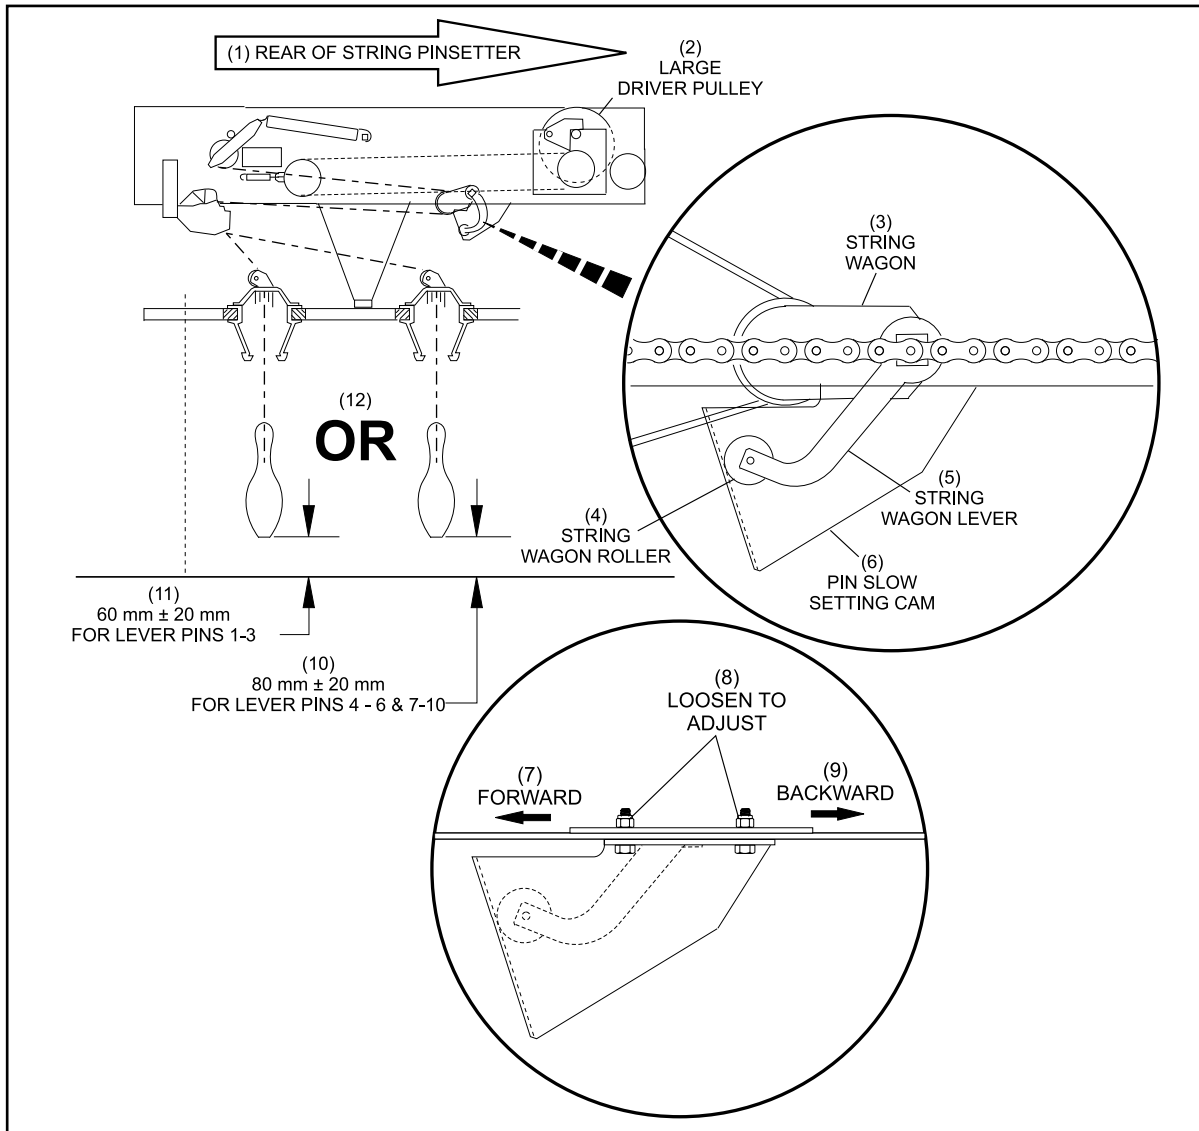

Figure 4-11. Slow Setting Adjustment
3. Manually rotate the large drive pulley in reverse until the string wagon lever roller starts to touch the inside of the pin slow setting bracket. Refer to *Figure 4-11*.